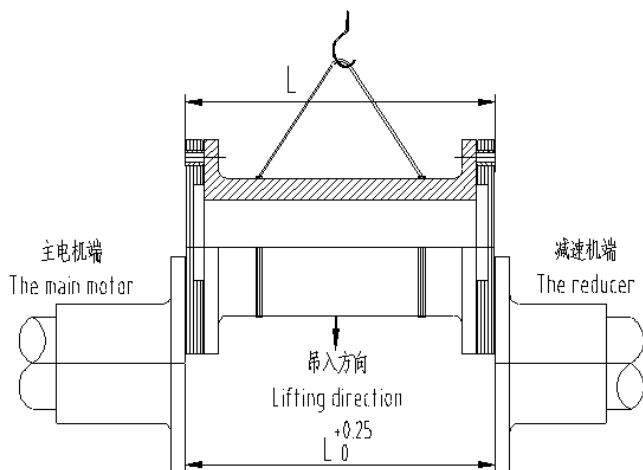

图 8 Fig.8
- (4) 测出实际尺寸，按图 8 方式吊入膜片组件，就位后拧紧螺栓，拧紧前在螺纹上涂抹厌氧胶防松。复查主电机轴是否处于中间位置。
Measure the actual dimension. Lift in the diaphragm as shown in Fig.8 and tighten the bolts (remember first to apply anaerobic glue on the thread). After alignment, check the main motor shaft in middle position.
对膜片联轴器，吊装传动轴和膜片组件应按图 8 所示起吊，并注意在钢丝绳与轴之间垫上软物，以防钢丝绳将轴拉伤，不得挂吊膜片处，以防膜片变形。
For the diaphragm coupling, the driven shaft and diaphragm assemblies should be lifted as Fig.8. Pay attention to place some soft mater between the steel rope and shafts to protect shafts from stretching by ropes. The diaphragm is not allowed to lift to avoid from distortion.